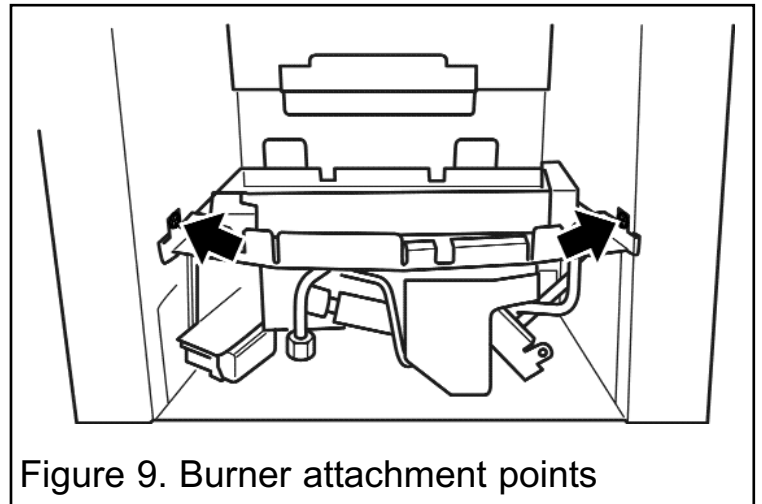

Figure 9. Burner attachment points
2. Detach the burner unit from the convector box by removing two screws (See figure 9). Lift the burner unit clear.
2. Depress the control pivot plate as far as it will go and hold in this position (See section 6, figure 9). This should close the ignition circuit and (now that the gas is connected) simultaneously open the gas tap allowing the gas to flow to the pilot. Wait a few seconds while the air is purged. The electronically generated sparks should light the pilot. The pilot should then light the main burner at its low setting. There may be a delay of up to four seconds between the pilot lighting and ignition of the gas at the main burner. This is normal and is due to the time required to fill the main burner compartment with sufficient gas for ignition.